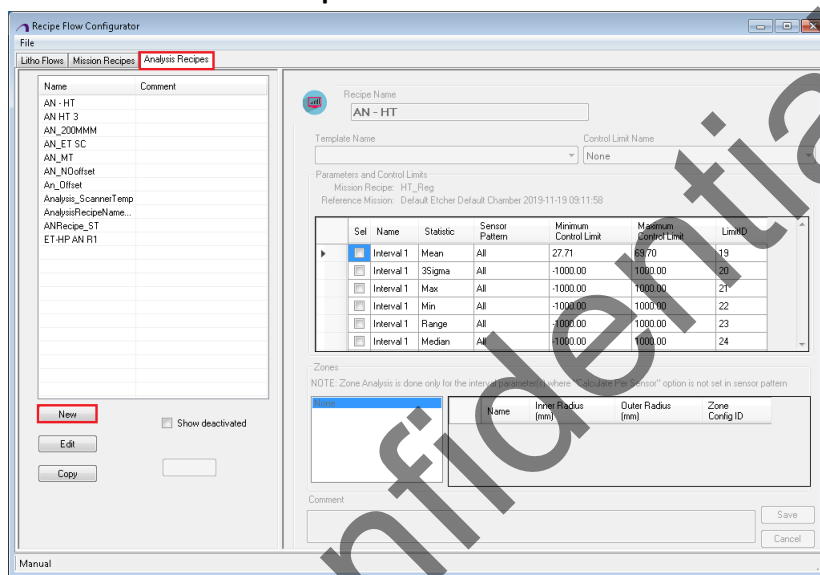

Figure 6-10 Analysis recipes window
1. Click **Recipe Flow Configurator** on the **SAT** launcher UI. You can see the Recipe flow configurator window opens, as shown in Figure 6-10.